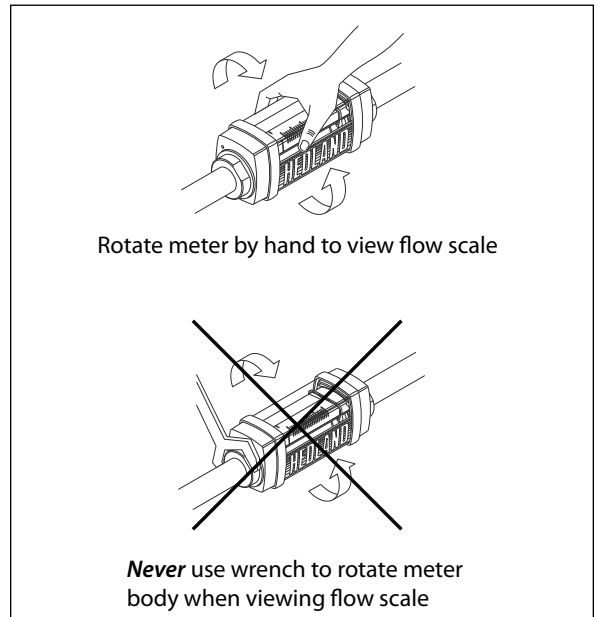

Figure 5. Rotating Meter
3. After installation, rotate meter by hand to view flow scale. See **Figure 5**.